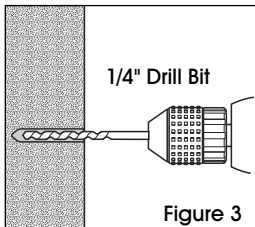

Figure 3
3. Drill holes for each bracket in marked locations using a 1/4" drill bit. (See Figure 3)